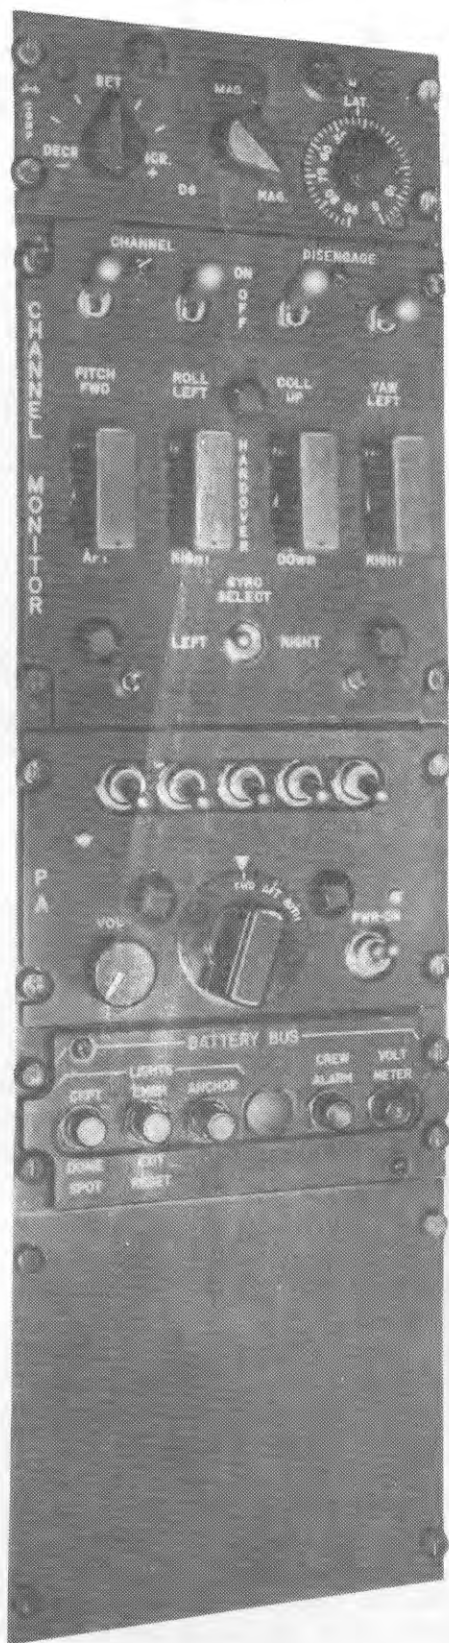

Figure 1-44. Pilot's Console (Typical)
The channel monitor control panel, marked CHANNEL MONITOR, is located on the pilot's console (figure 1-44) to the right of the pilot's seat. The controls consist of four toggle switches across the top of the panel, marked PITCH, ROLL, COLL, and YAW, under the general heading CHANNEL DISENGAGE, with marked position ON and OFF. These toggle switches permit individual disengagement of the pitch, roll, collective, and yaw channels of AFCS. They are usually left in the ON position, except when the pilot wishes to disengage a malfunctioning channel. Directly below the four
The J-4 compass control panel, located on the pilot's console (figure 1-44), contains all the controls for operation of the compass system. The function selector switch has marked positions DG and MAG. When the function selector switch is placed in the DG position, the compass system will function as a free directional gyro, with either north or south latitude corrections for the drift effect of the rotation of the earth. When the switch is placed in the MAG position, the gyro is slaved to the earth's magnetic field. Directional reference signals are obtained from the remote compass flux valve. In this mode of operation, the gyro is used as the stabilizing element of the compass system. The rotating azimuth card on the BDHIs will indicate stabilized magnetic headings. The annunciator meter, marked MAG on the compass control panel, provides indication of the synchronization of the compass system. In magnetic compass (MAG) operation, the synchronization circuits automatically synchronize the gyro to the remote compass flux valve. Automatic synchronization is established in the first 15 seconds of MAG operation and is maintained during operation of the compass system in this mode. In the directional gyro (DG) mode of operation, synchronization is not established or maintained automatically. Manual synchronization is accomplished by operating the SET synchronizer switch on the compass control panel. When the SET synchronizer switch, with marked positions DECR (−) and INCR (+), is displaced to the right or left, a synchronized signal is provided through the system at the rate and direction required to set the compass card of the pilot's and copilot's BDHIs, as desired. Synchronization of the system is indicated on the annunciator meter when the pointer is in line with the white arrow on the control panel. Reference heading data for the AFCS system is not affected by the synchronization cycles. The BDHIs compass cards can also be repositioned by use of the SET synchronizer switch when the compass is in magnetic compass (MAG) operation. The switch marked LAT is used to set in the proper magnitude of latitude correction during the DG mode of operation. Maximum drift of the directional gyro occurs when the gyro spin axis is at right angles to the earth's spin axis (north and south poles), and zero drift occurs